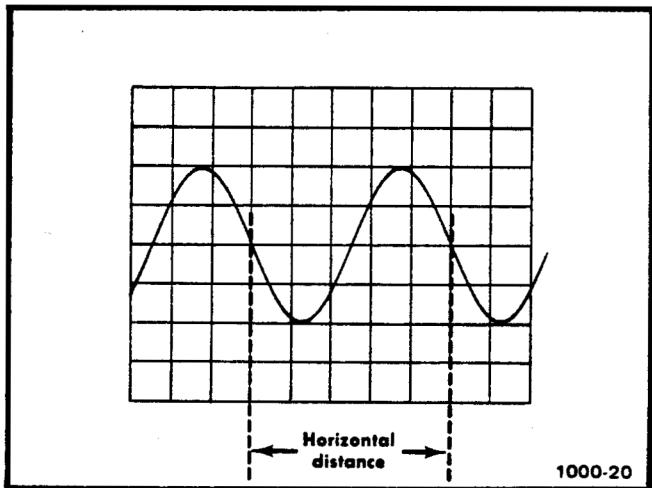

Fig. 2-5. Measuring time duration (period) between points on a waveform.
- Set the time-base triggering controls to obtain a stable display. Set the SECONDS/DIV switch to the fastest sweep rate that will permit displaying one cycle of the waveform in less than eight divisions (some non-linearity may occur in the first and last graticule divisions of display). Refer to Fig. 2-5.
EXAMPLE: The frequency of the signal shown in Fig. 2-5, which has a period of 0.5 ms is: